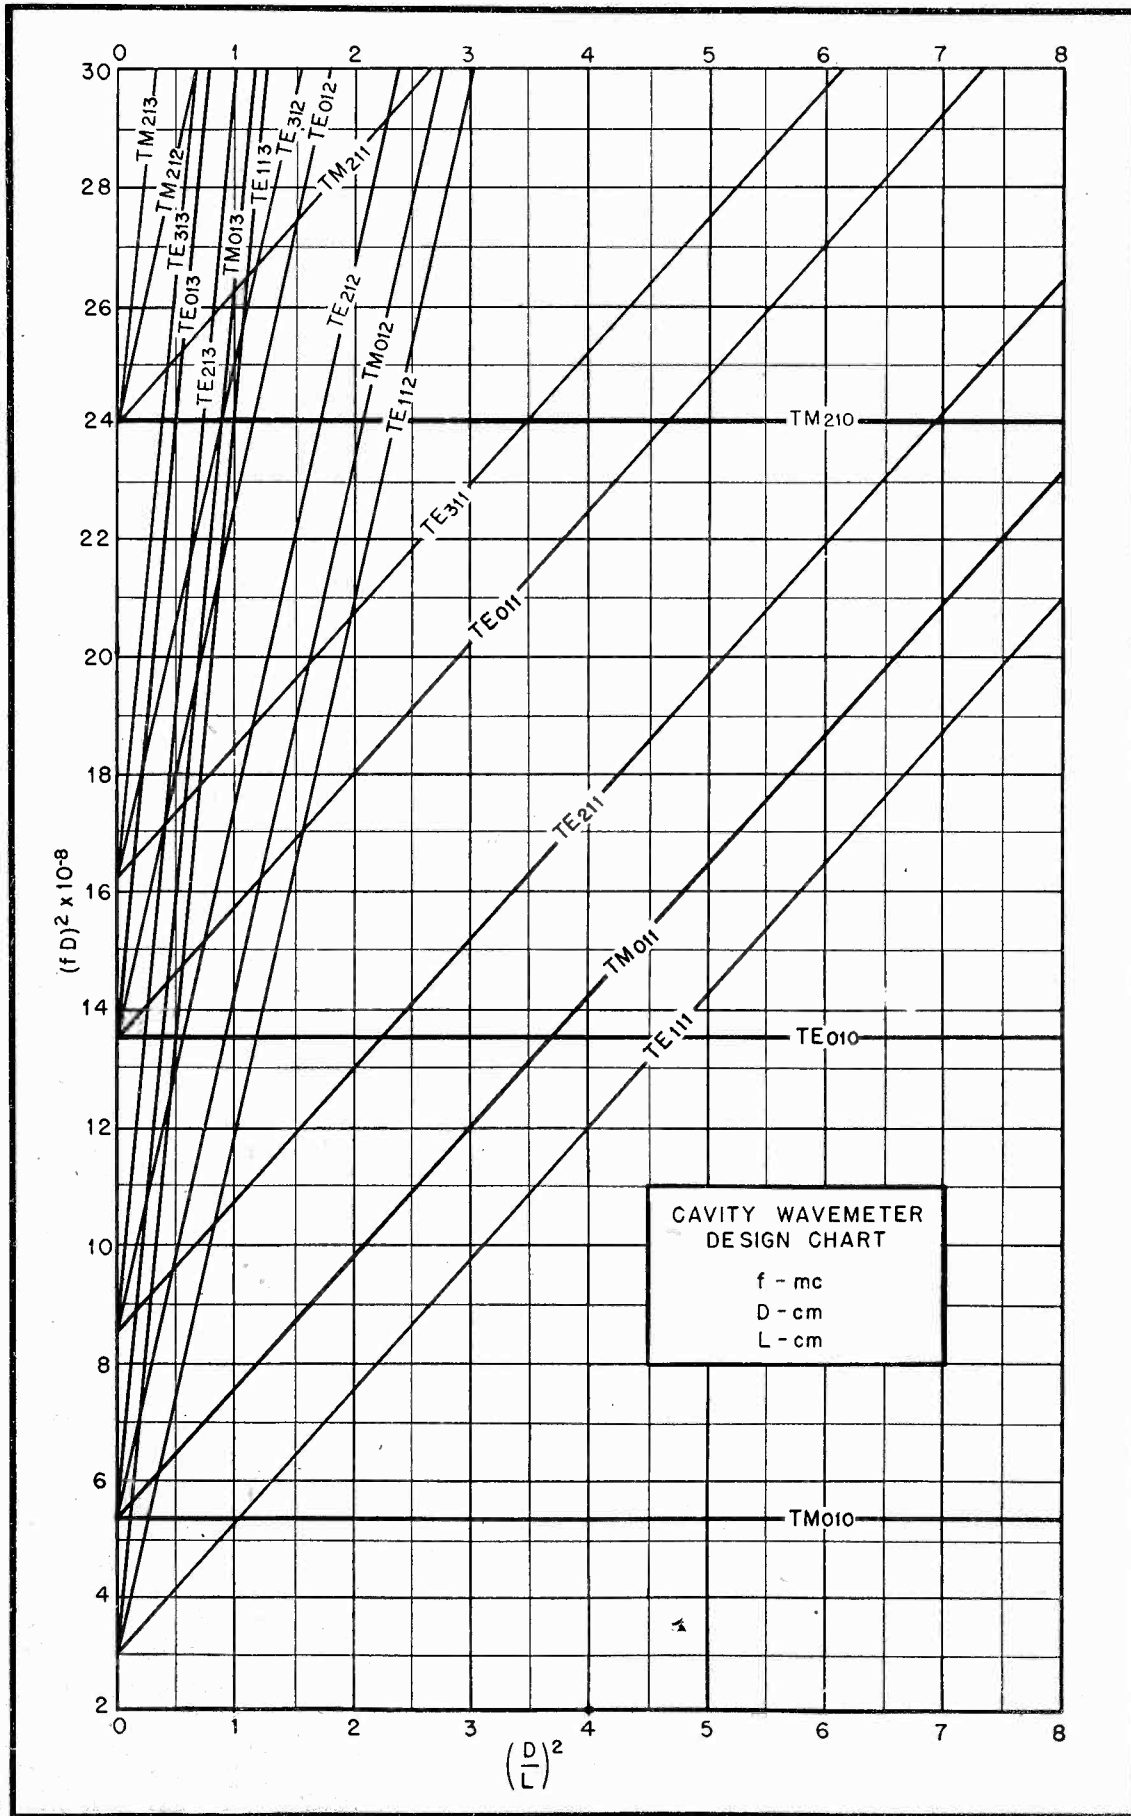

Fig. 4. Plot of $(D/L)^2$ as a function of $(fD)^2 \cdot 10^{-8}$ affords rapid solution of equation (8) for various low-order modes.
Fig. 4 is a plot of equation (8) for several low-order modes. From this
Frequencies of crystal and master oscillators are divided to a common frequency as indicated in *Fig. 4* to reduce the deviation for proper operation of the phase detector. These two voltages are combined in the balanced phase-detector circuit shown in *Fig. 5*, and the integrated rectified output is utilized to bias the modulator so that the mean frequency of the master oscillator may be pulled in and locked with that of the crystal.
Fig. 4. (above) Detailed block diagram showing frequency intervals of c-f-c and modulator unit. Fig. 6a. (below) Basic block diagram of Western Electric electro-mechanical c-f-c system.